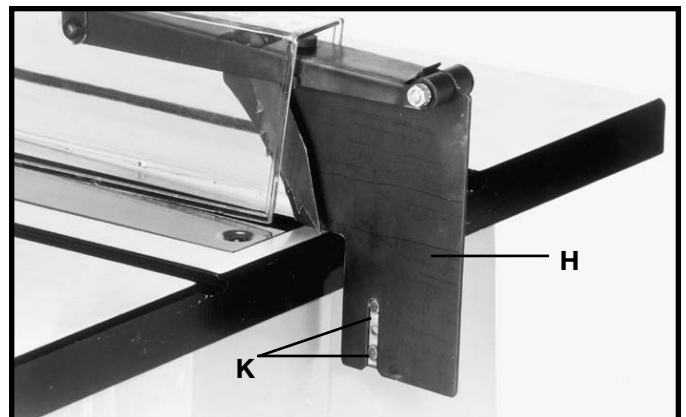

Fig. 13
7. Position the splitter (H) Fig. 13, on the splitter support bracket as shown, making certain the two protrusions (K) on the splitter support bracket are inside the slot of splitter (H).